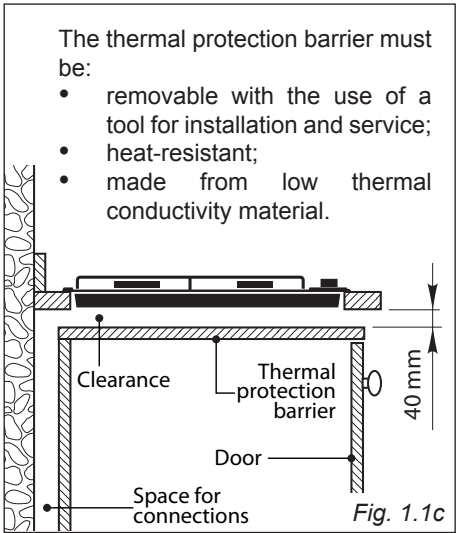

Fig. 1.1c
- If the cooktop is installed directly above an oven (which does not have a cooling fan motor) a thermal protection barrier must be installed below the base of the cooktop as indicated in fig. 1.1c.
- If the cooktop is installed directly above an oven (which does not have a cooling fan motor) or if its base is accessible through a cupboard or drawer space after installation, a thermal protection barrier must be installed below the base of the cooktop as indicated in fig. 1.1c.
- If the base of the cooktop is accessible through a cupboard or drawer space after installation, a thermal protection barrier must be installed below the base of the cooktop as indicated in fig. 1.1c.